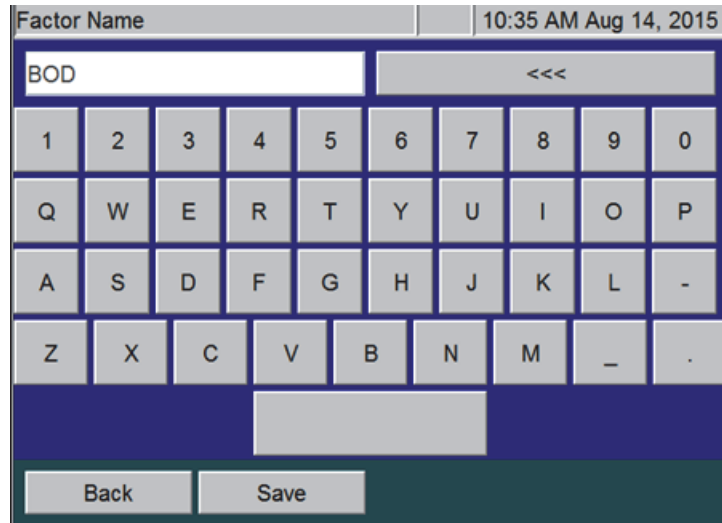

Figure 32: Configuring the Factor Name
8. Press the **Factor Name** button and use the alpha/numeric keypad to type a name for the conversion factor (Figure 32).